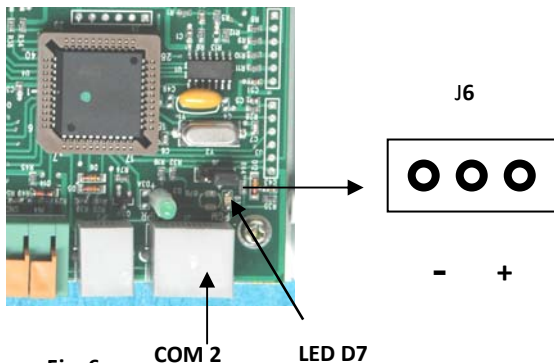

Fig. 6
4. Set jumper J6 to “-” position (refer to Fig. 6), red LED D7 would light up.
2. Put the J6 at “-” position, refer to Fig. 6